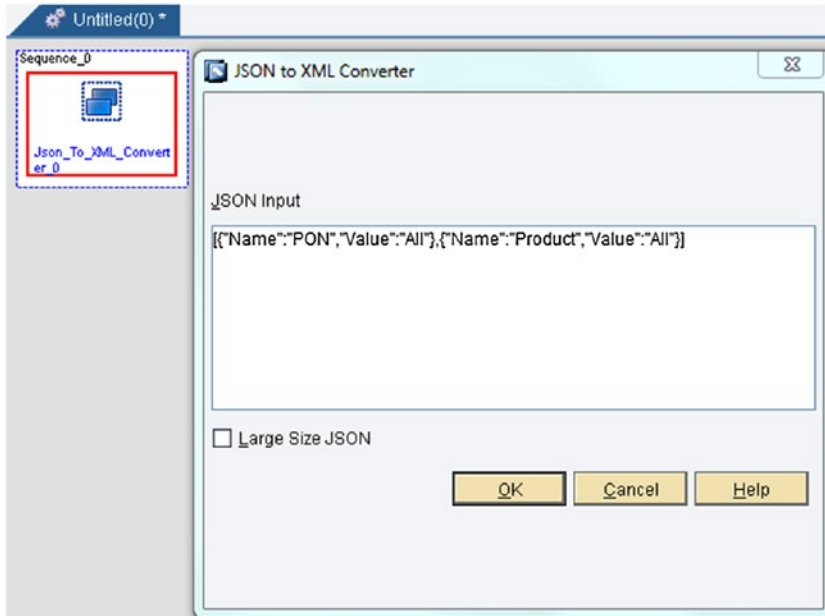

Figure 7-177. SAP JSON to XML Converter action block and its configuration
- *JSON to XML Converter:* This XML function block converts the JSON structure into an XML structure, as shown in Figure 7-177.